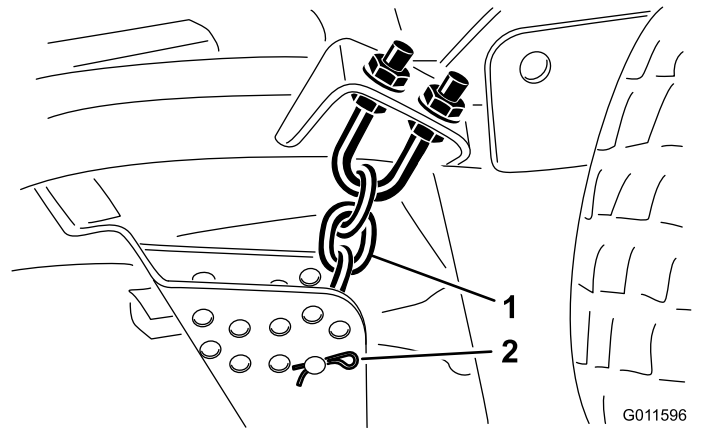

Figure 18
9. Remove the hairpin cotter and clevis pin securing the height-of-cut chains to the rear of the mower deck (Figure 18).